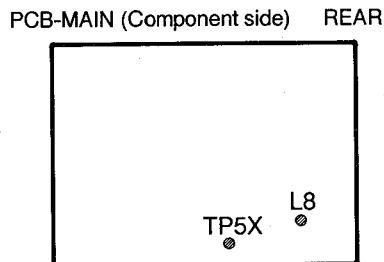

Fig. 2
- 1 Turn the set upside down as shown in Fig. 2.
- 2 Remove the two fastening screws (a) and (b) shown in Fig. 2.
- 3 Push the one hook (A) toward inside. Slide the Bottom Panel backward to remove it, with taking care of the four catches (B).